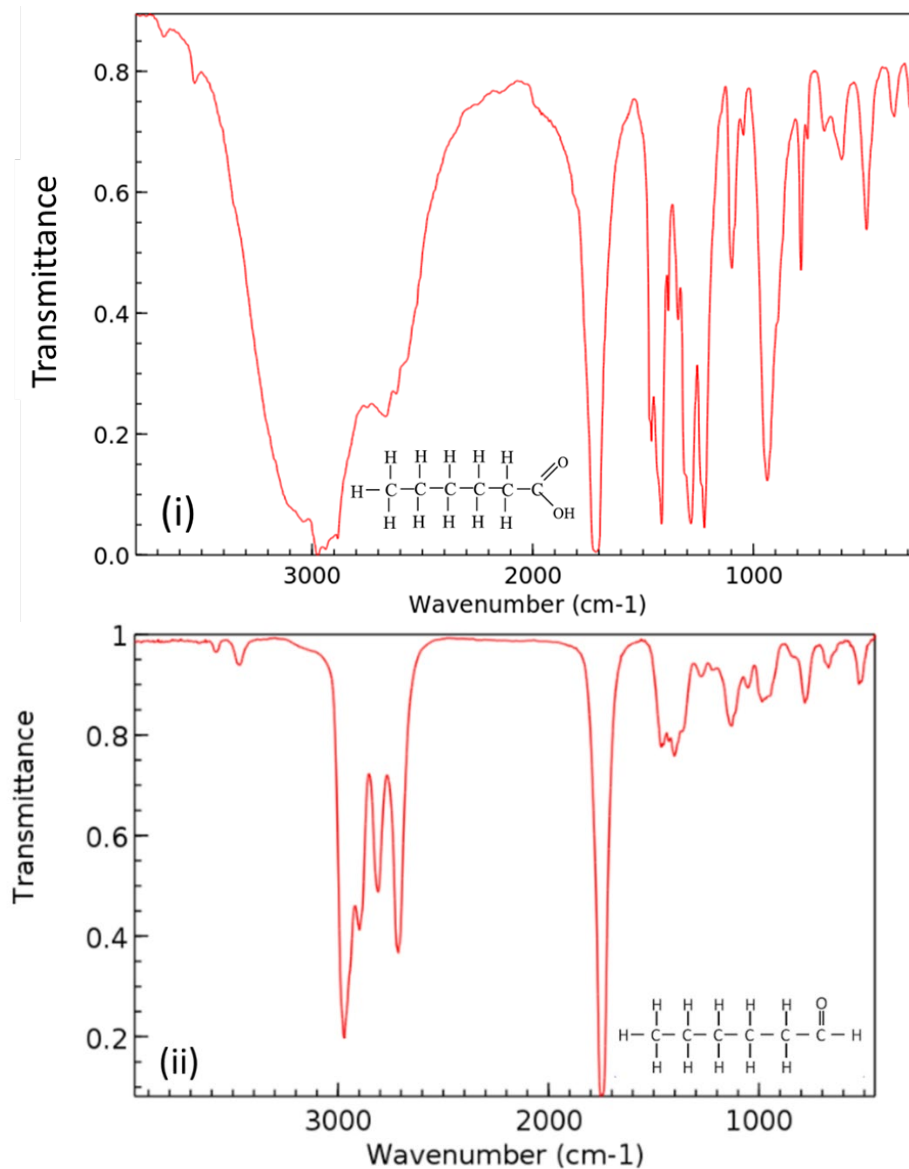

Figure 4: FTIR spectra of (i) hexanoic acid and (ii) hexanal.
- (5). (a). Below are the FTIR spectra for (i) hexanoic acid and (ii) hexanal (Figure 4). Describe the major differences between the spectra based on the two structures of the polymers.